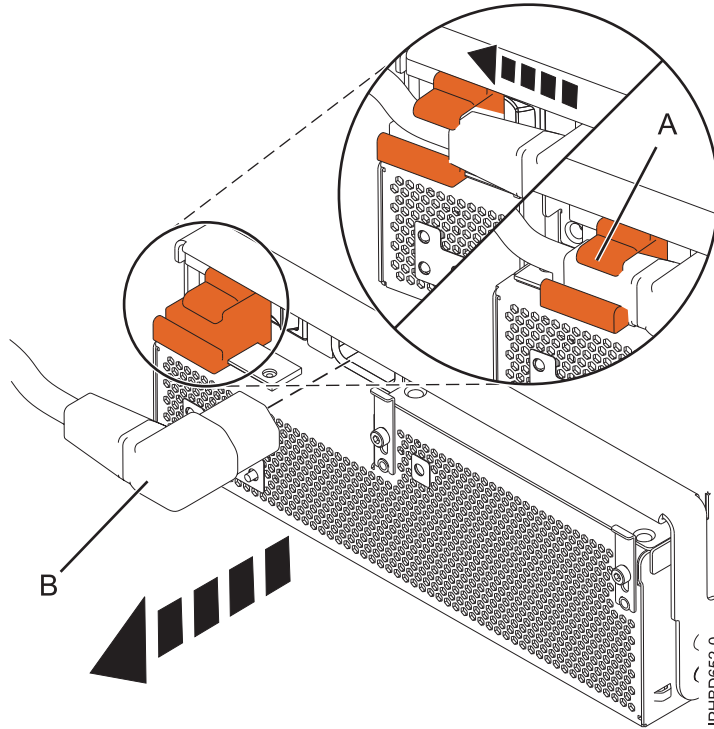

Figure 58. Disconnecting the power cable from the front of an expansion unit
8. For the power supply that you want to remove, slide the cable retention bracket to the open position (**A**), and then disconnect the power cable (**B**) as shown in Figure 58 on page 72. By moving the bracket to the open position, you turn off the power supply.